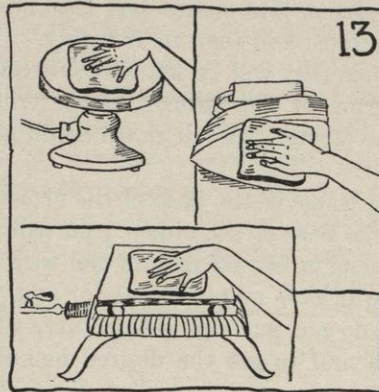

FIG. 13.
- c. Heat the luring pad on the luring stove, hot plate, or upturned iron (see Figure 13).